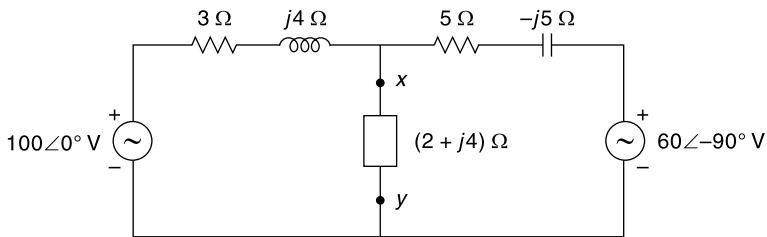

Fig. 6.39
7. Use Thevenin's theorem to find the current in the impedance connected to terminals x and y of the network shown in Fig. 6.39. [Ans: 15.42 A]